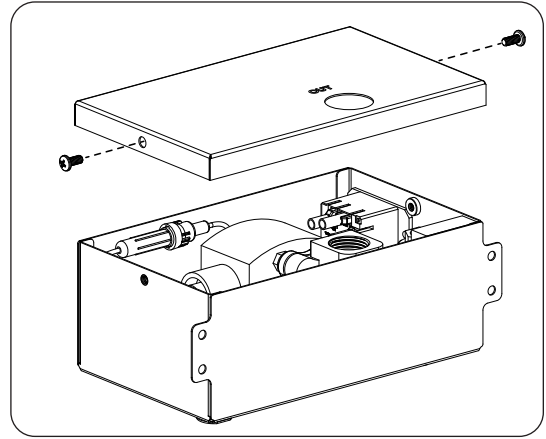

Fig. 47-1 Remove access panel of valve box
4. Use a Phillips screwdriver to remove the access panel of the valve box (see Fig. 47-1).